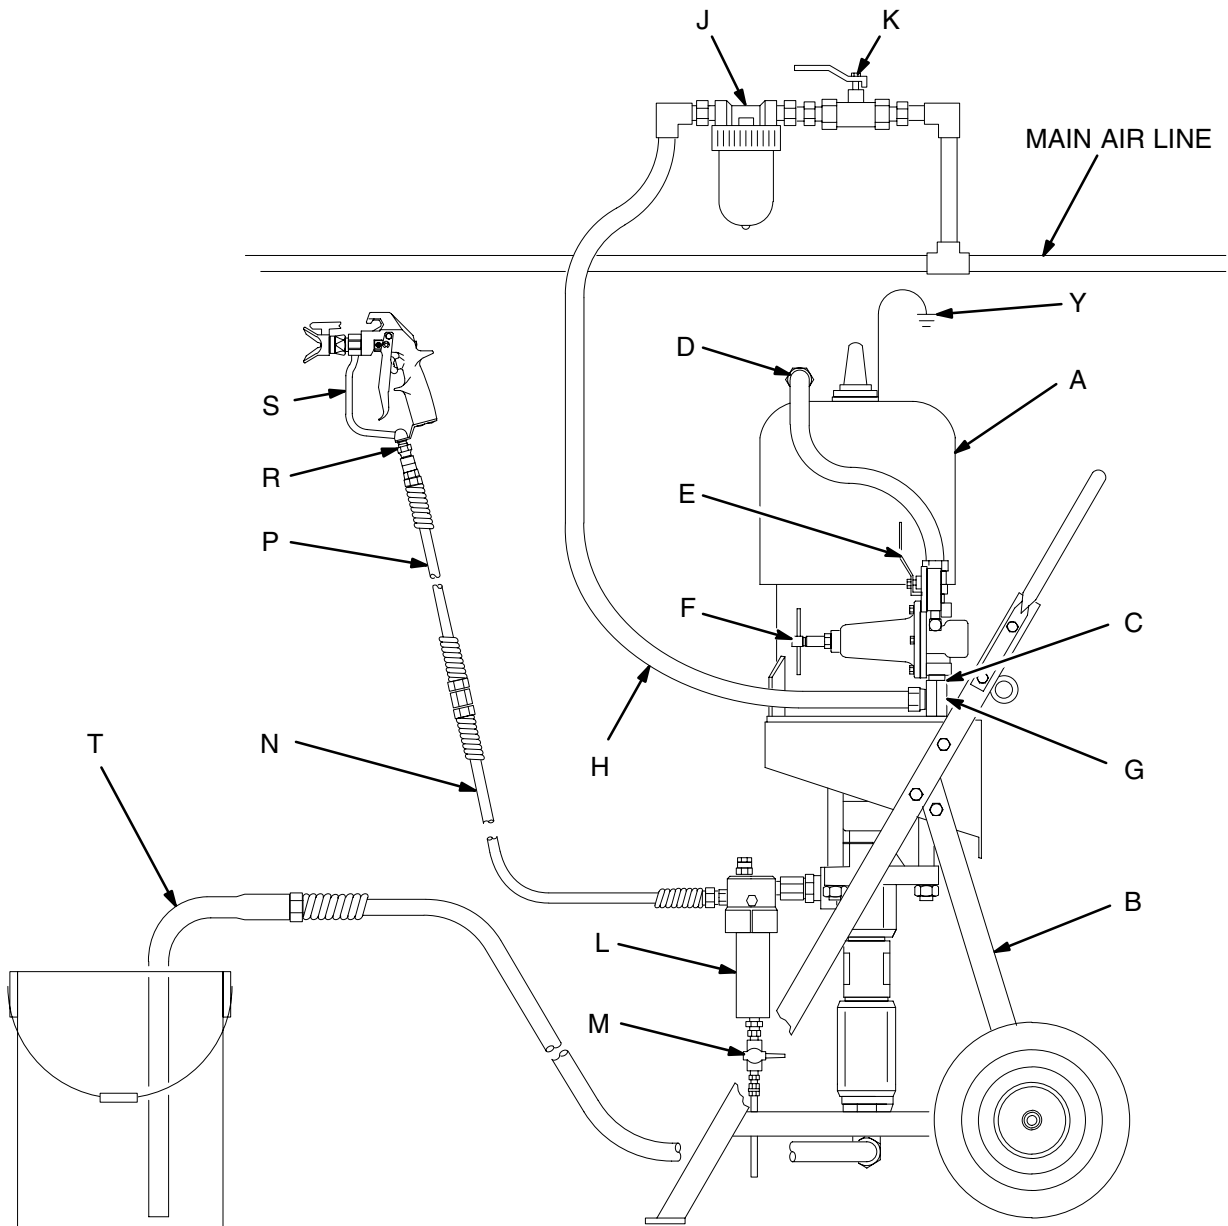

Fig. 2
Fig. 2 is only a guide for selecting and installing system components and accessories. Contact your Graco distributor for assistance in designing a system to suit your particular needs.
Mount the pump (A) to suit the type of installation planned. Fig. 2 illustrates a cart mount system. Pump dimensions and the mounting hole layout are shown on page 49.
Install the following accessories in the locations shown in Fig. 2, using adapters as necessary:
- **A fluid filter (L)** with a 60 mesh (250 micron) stainless steel element, to filter particles from the fluid as it leaves the pump.
- **A fluid drain valve (M)**, which is required in your system, helps relieve fluid pressure in the hose and gun (see the **WARNING** at left).
- **A gun (S)** dispenses the fluid. The gun shown in Fig. 2 is an airless spray gun for light to medium viscosity fluids.
- **A gun swivel (R)** allows freer gun movement.
- **A suction kit (T)** allows the pump to draw fluid from a supply container.
1. See Fig. 2 on page 9. Connect the suction kit (T) to the pump's fluid inlet. Place the tube into the fluid supply.
2. Close the air regulator (F).
3. Open the pump's bleed-type master air valve (E).
4. Hold a metal part of the gun (S) firmly to the side of a grounded metal pail and hold the trigger open.
8. If the pump fails to prime properly, open the drain valve (M). Use the drain valve as a priming valve until the fluid flows from the valve. Close the valve.